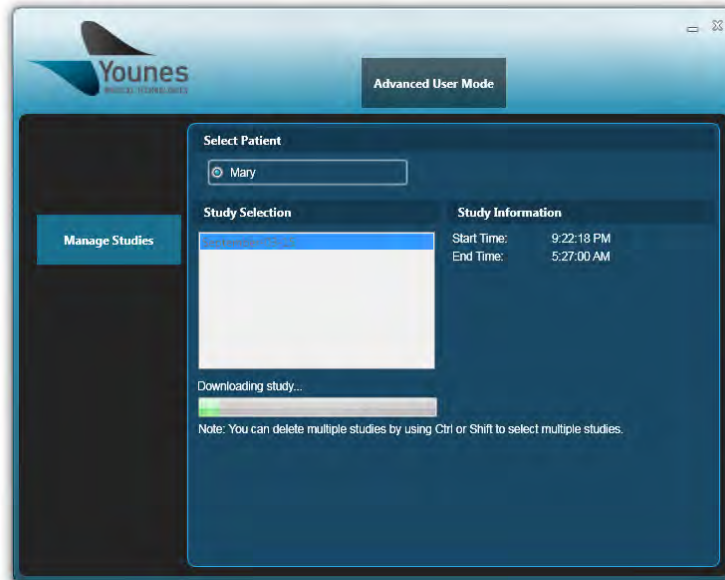

Figure 89 – Windows PC Prodigy Application Download Progress Screen (Manage Studies)
- The Windows PC Prodigy application will display the progress of the download after a file location has been chosen, as shown in Figure 89.